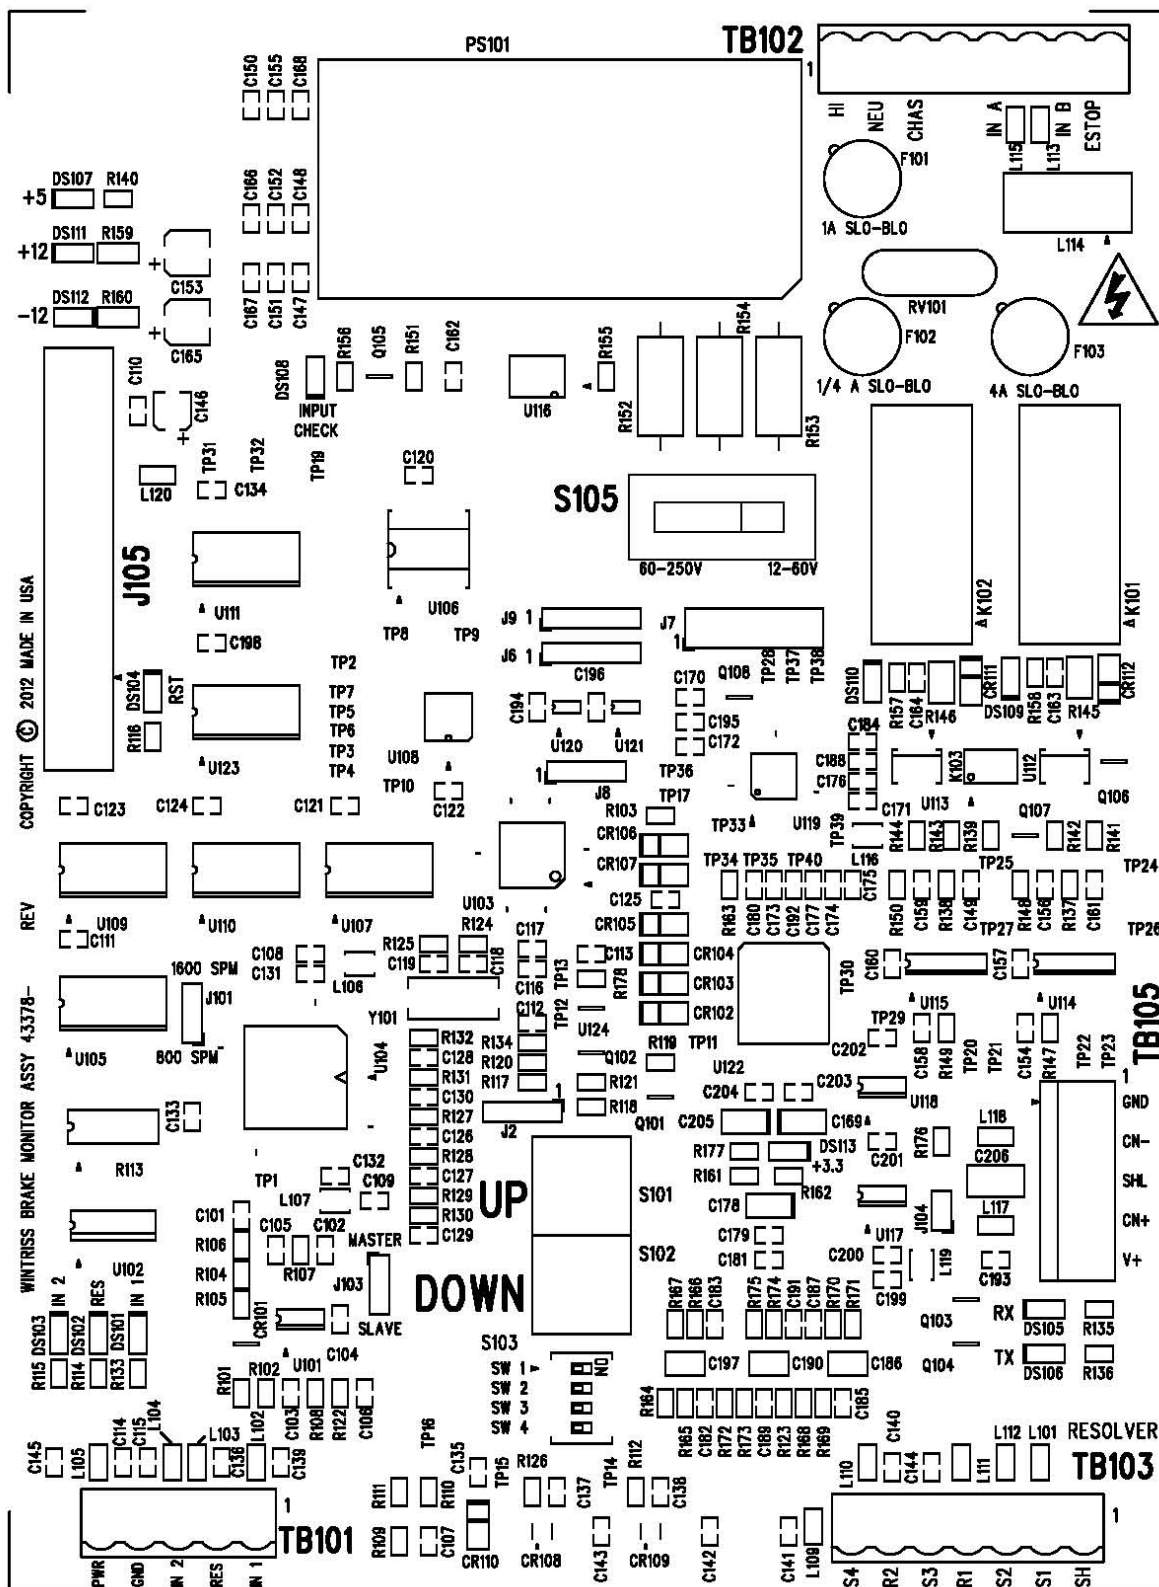
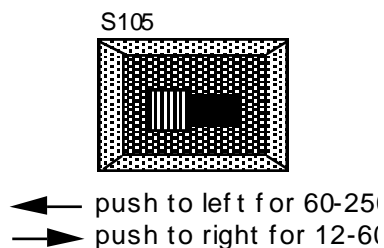

Figure 2-4. Location of components
Figure 2-8. Input check switch (S105)
3. See Figure 2-4 for the location of the resolver connector TB103. Measure the resolver wires to fit and cut the wires.
1. See Figure 2-4 for the location of the resolver connector TB103 and the jumper J103.
- b. For applications where dual safety valve coil voltage is 12-60 Vac or Vdc: Set switch S105 to the right. The switch is marked 12-60 V. *(This switch is located at the upper right-hand portion of the board. See Figure 2-4 for location of switch. See Figure 2-8 for illustration.)*
If you wish to turn the crank-angle clock OFF while the press is running, it is easy to do. Simply open the unit, and locate switch block S103 (see Figure 2-4 for exact location). With a ball point pen (not a pencil) or your thumbnail, push switch SW3 to the right (away from the OPEN position). Make sure that you push it all the way to the right. Remember that while this disables the LEDs on the clock from illuminating when the press is running, the clock face will be illuminated when the press is stopped. If you wish to completely disable the clock face, push switch SW4 all the way to the right, instead of SW3.
1. See Figure 2-4 for the location of the jumper J101. Notice that the jumper is set on pins 2 and 3 (for 1000 SPM).
2. Looking inside Wintriss Brake Monitor, locate the firmware chip at location U106 (see Figure 2-4). Notice that the firmware chip has a label on it.